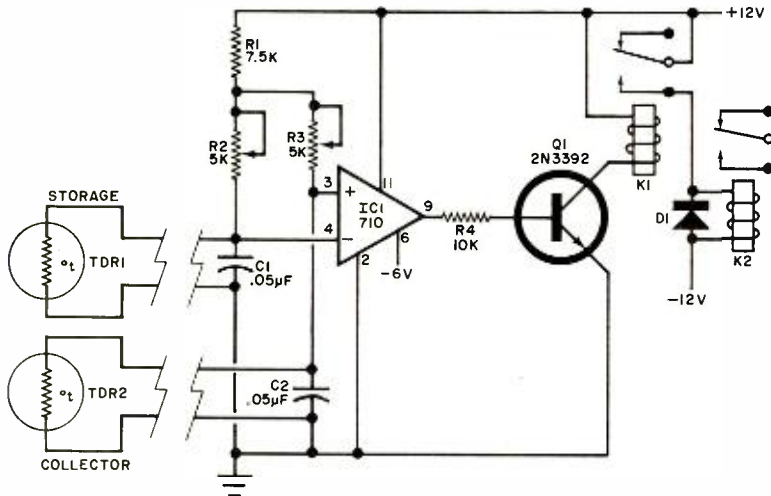

Fig. 1. Comparator IC1 turns on or off depending on resistances of TDR1 and TDR2. When IC1 is on, Q1 and the relays are energized.
**Circuit Operation.** The basic controller circuit is shown in Fig. 1. In IC1, a voltage comparator, the resistances of two temperature-dependent resistors (TDR1 and TDR2) are compared, with TDR1 placed in the storage medium and TDR2 in the solar collector. When TDR1 is warmer than TDR2, its resistance is higher and the higher voltage at the inverting (-) input to IC1 keeps its out-